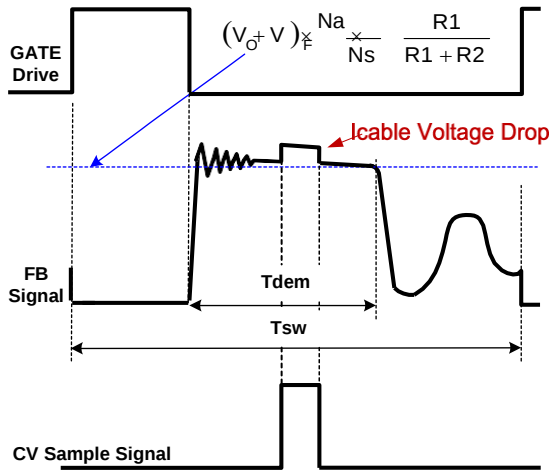

Fig.2
In primary side control, the output voltage is sensed on the auxiliary winding during the transfer of transformer energy to the secondary. Fig.2 illustrates the CV sampling signal timing waveform in DP5546. As shown in Fig.2, it is clear that there is a down slope representing a decreasing total rectifier V_f and its voltage drop as the secondary current decreases to zero. To achieve an accurate representation of the secondary output voltage on the auxiliary winding, the CV sampling signal blocks the leakage inductance reset and ringing. When the CV sampling process is over, the internal sample/hold (S&H) circuit captures the error signal and amplifies it through the internal Error Amplifier (EA). The output of EA is sent to the Primary Side Constant Voltage Modulator (PS-CVM) for CV control. The internal reference voltage for EA is trimmed to 2V with high accuracy.
During the CV sampling process, an internal variable current source is flowing to FB pin for Cable Drop Compensation (CDC). Thus, there is a step at FB pin in the transformer demagnetization process, as shown in Fig.2. Fig.2 also illustrates the equation for “demagnetization plateau”, where V_o and V_f is the output voltage and diode forward voltage; R_1 and R_2 is the resistor divider connected from the auxiliary winding to FB Pin, N_s and N_a are secondary winding and auxiliary winding respectively.